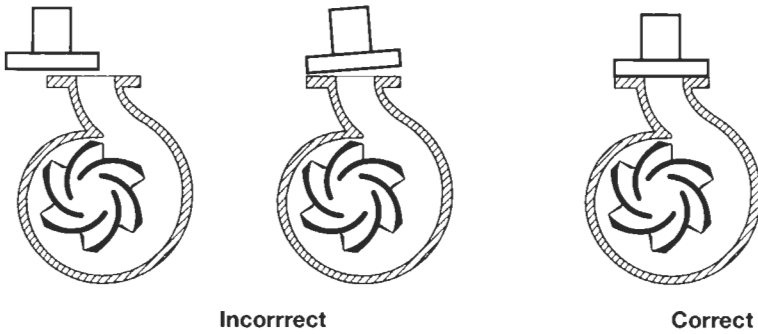

Figure 10-11
- Bring the pipe to the pump and adjust it to the pump. Don't adjust the pump to the piping (Figure 10-11).